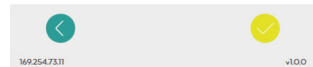

**Fig. 24**
2. Using a funnel, fill the Hex Box™ with distilled water until the water tank is full, figure 24.